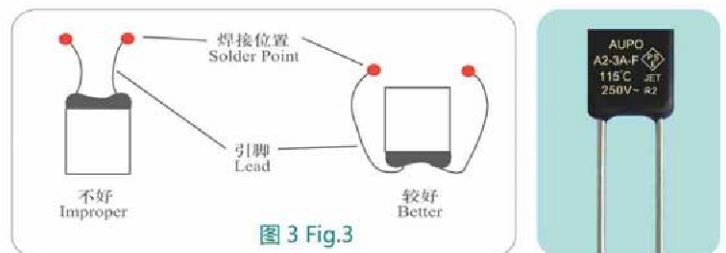

图 3 Fig.3
- 尽可能利用长一些的引脚，长一些的引脚允许较长的焊接时间及减少过热的可能性。（见图 3）为如何在较小的位置保留长一些的引脚的例子。在引脚较短的情况下，在焊接时要用尖嘴钳或其它工具夹在引脚上焊点和保险丝体之间位置上以散热，避免焊接热传入温度保险丝内部。同时焊接温度应控制不要过高，焊接时间尽可能短。
- Using the lead wires as long as possible when soldering, longer leads permit a longer soldering time and reduce the possibility of overheating. Fig.3 is an example of how to keep a longer lead wires when a thermal cutoff is installed in a small space. It is recommend that using a heat sink between the soldering point and sealant to minimized the heat transmission to thermal cutoff. Avoid the soldering temperature is too high and keep the soldering time as short as possible.